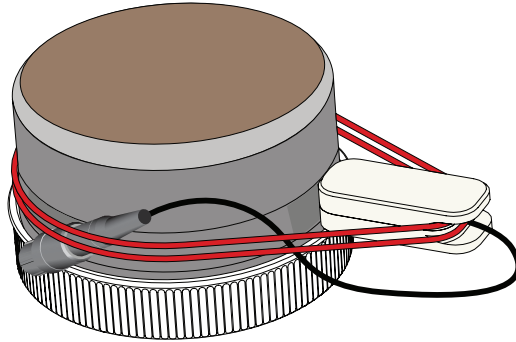

Figure 12 Soil sampling ring with sensor installed
13. Secure the sensor cable connector in the retaining rings (Figure 12).